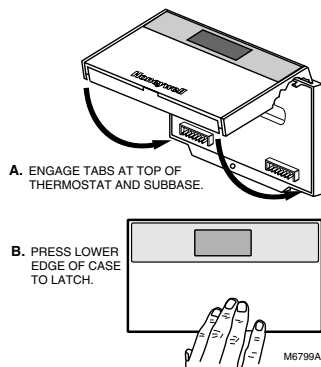

Fig. 16. Mounting thermostat on subbase.
1. Engage tabs at the top of thermostat and subbase. See Fig. 16.